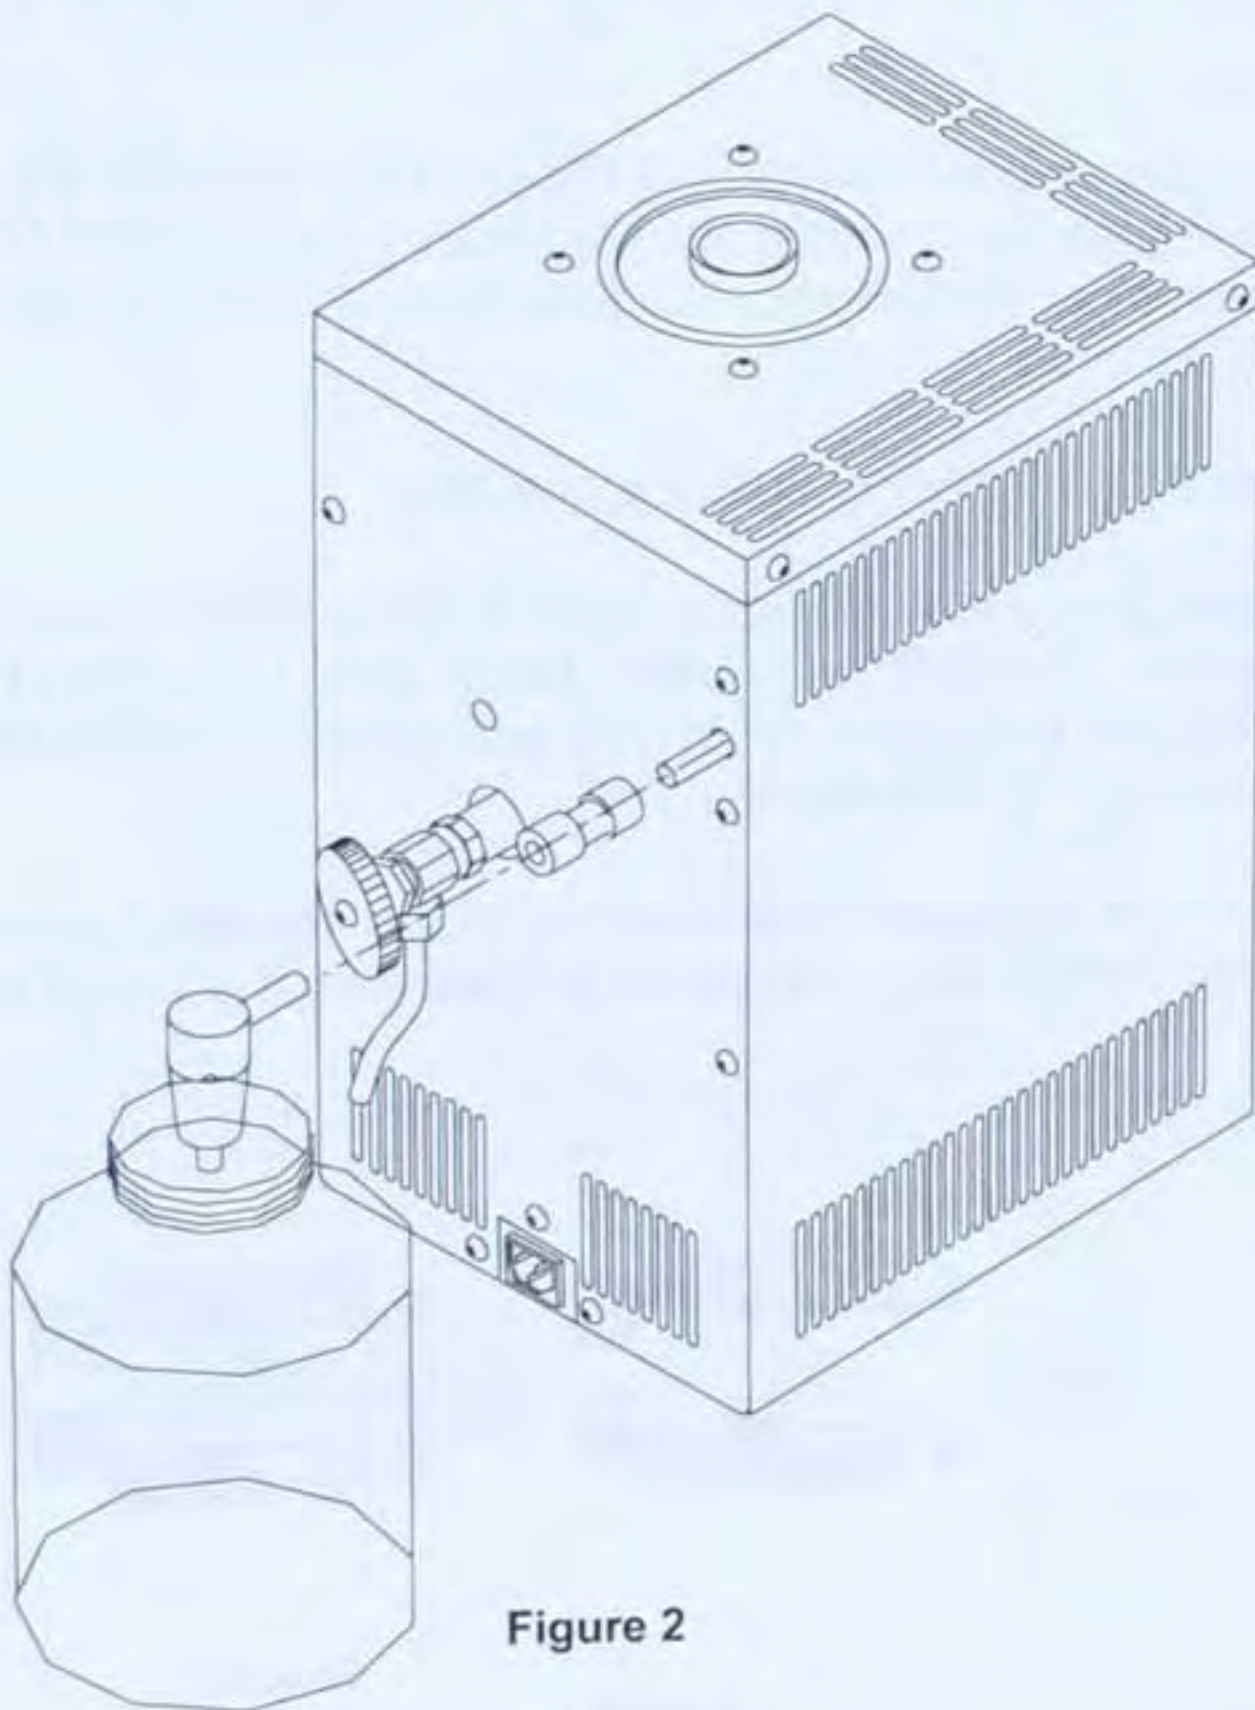

Figure 2
4. Position the post-filter loosely into the mouth of the glass jar as shown in Figure 2. The unit is now ready for normal operation.
5. To remove the filter, the adjustable collet (A) must be loosened and the grey collet (B) must be depressed before pulling the fitting off of the condenser outlet.